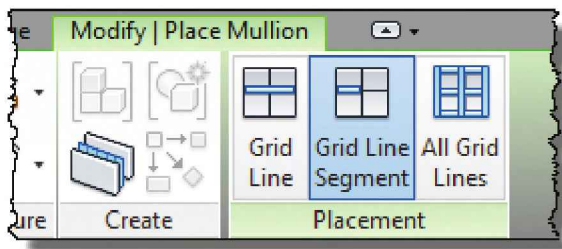

FIGURE 8-5.7A
16. With the Mullion tool selected, click **Grid Line Segment** from the *Ribbon* (Figure 8-5.7A).